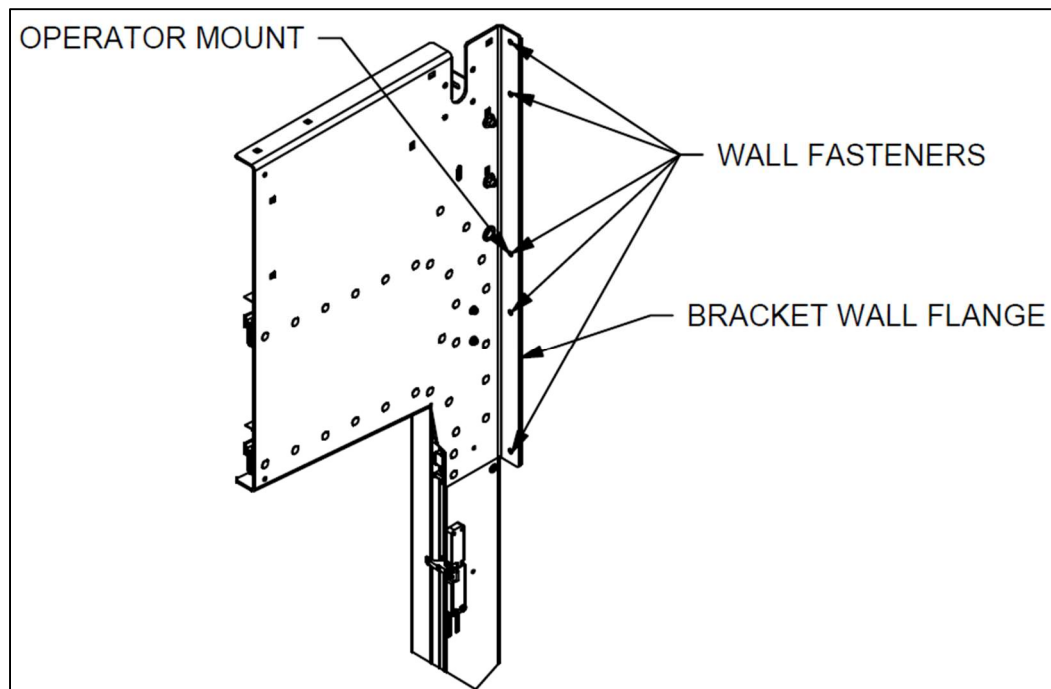

Figure 8 - RIGHT HAND BRACKET ASSEMBLY WITH WALL FASTENERS
19. Fasten the bracket assembly to the wall through the flange in the bracket using the appropriate hardware. See **Figure 8**. Note: If your door includes a side-mounted operator, do not install fastener in operator mount location until operator installation.